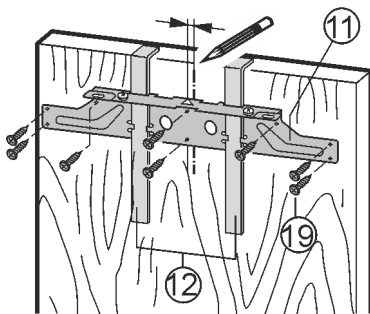

Fig. 22
- ▶ Align the crosspiece Fig. 22 (11) to the middle of the door.
- ▶ Left strip: Move the crosspiece Fig. 22 (11) 6 mm (0.24 in) to the left.
- ▶ Right strip: Move the crosspiece Fig. 22 (11) 6 mm (0.24 in) to the right.